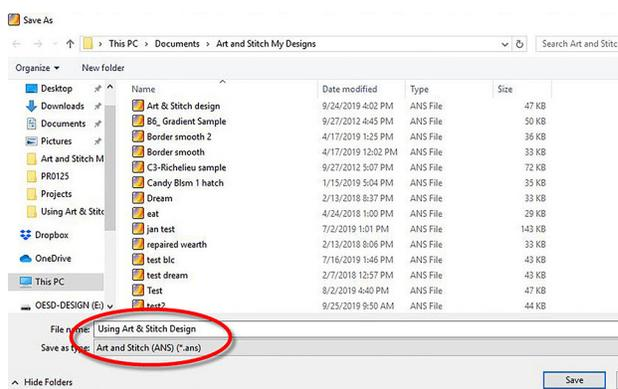

Fig. 87
- Save the design as an ANS file when the dialogue box pops up (Fig. 87).